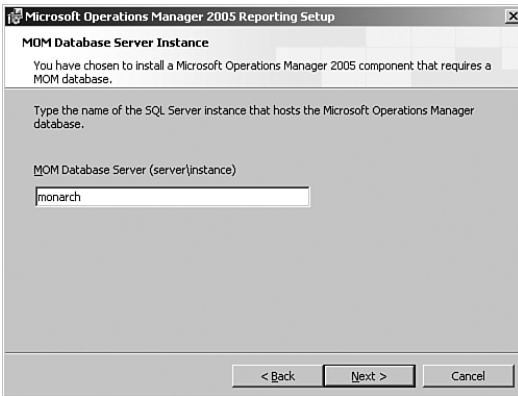

FIGURE 6.19 Enter the MOM database server instance.
3. As shown in Figure 6.19, specify the location of the MOM database server instance. If the OnePoint database is installed in the default instance, you need only specify the server name; otherwise, specify the computer name and instance name. Our example shows that OnePoint is installed in the default instance on Monarch.
4. The next screen looks similar to that shown in Figure 6.19, except that you enter the name of the local SQL Server instance that will host the MOM reporting database. This can be the SQL Server instance used with the SQL Server Reporting Services installation or a separate server.